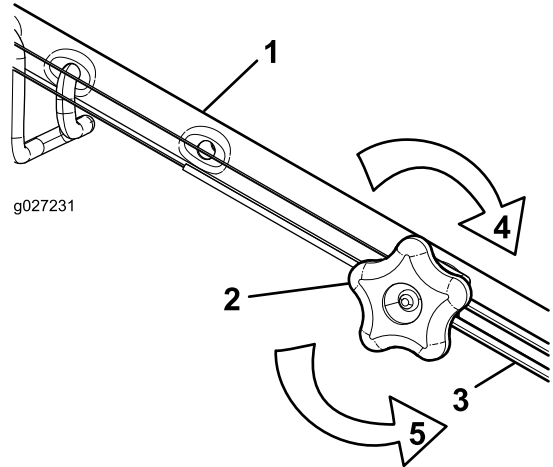

Figure 45
- Turn the adjustment knob counterclockwise to loosen the cable adjustment (Figure 45).
- Adjust the tension on the cable (Figure 45) by pulling it back or pushing it forward and holding that position.